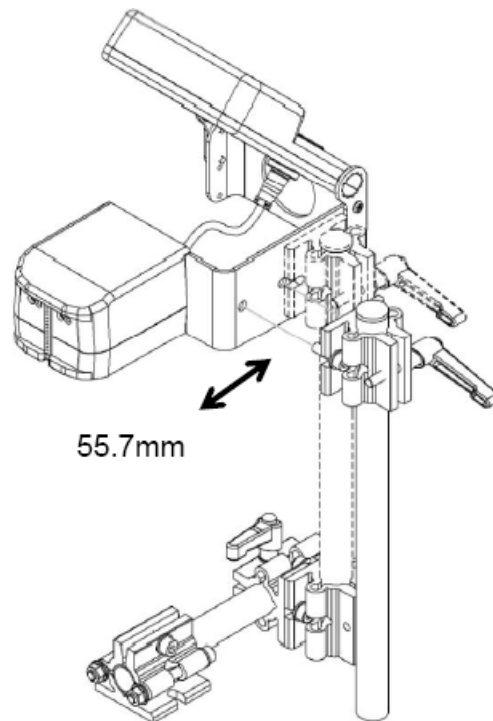

Figure 3-9: Movement Distance
**Note:** There are two methods of installing the printer brace. This enables the printer to move forward and backward by 55.7 mm distance. Refer to Figure 3-9 on page 3-8.
- 4 Insert the wire of the externally-connected sensor through the orifice on the cover. The total length of the wire should be around 140 mm (Figure 3-9 on page 3-8).